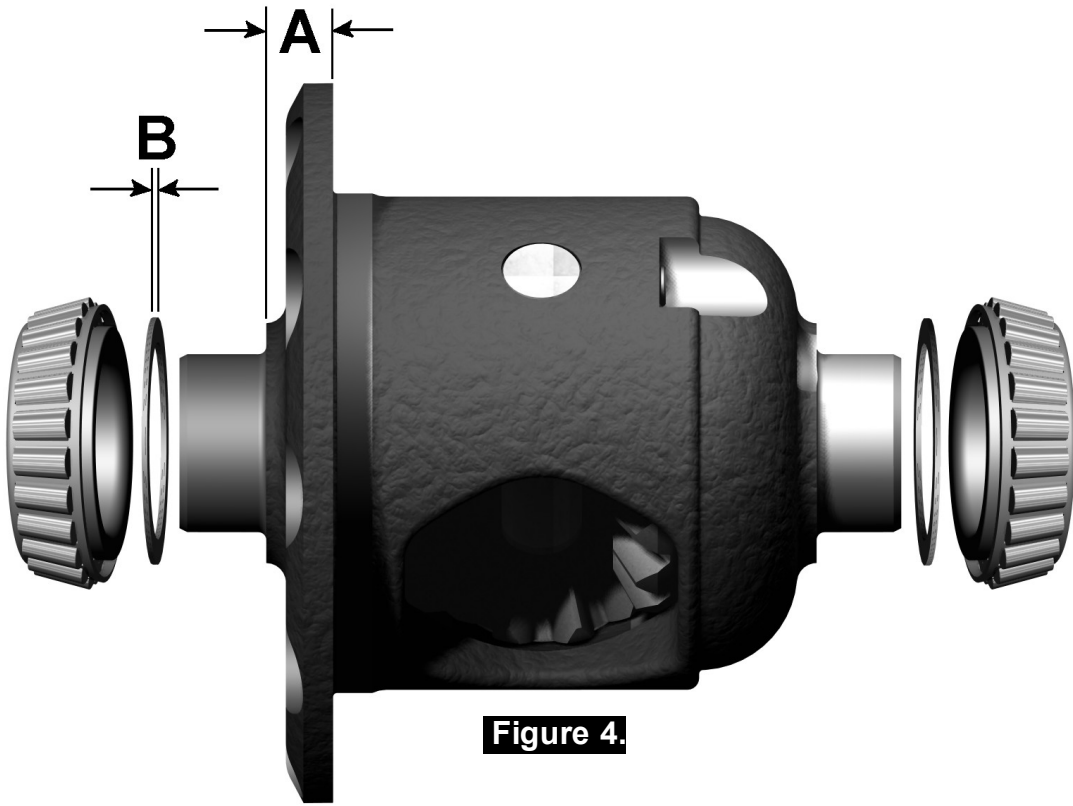
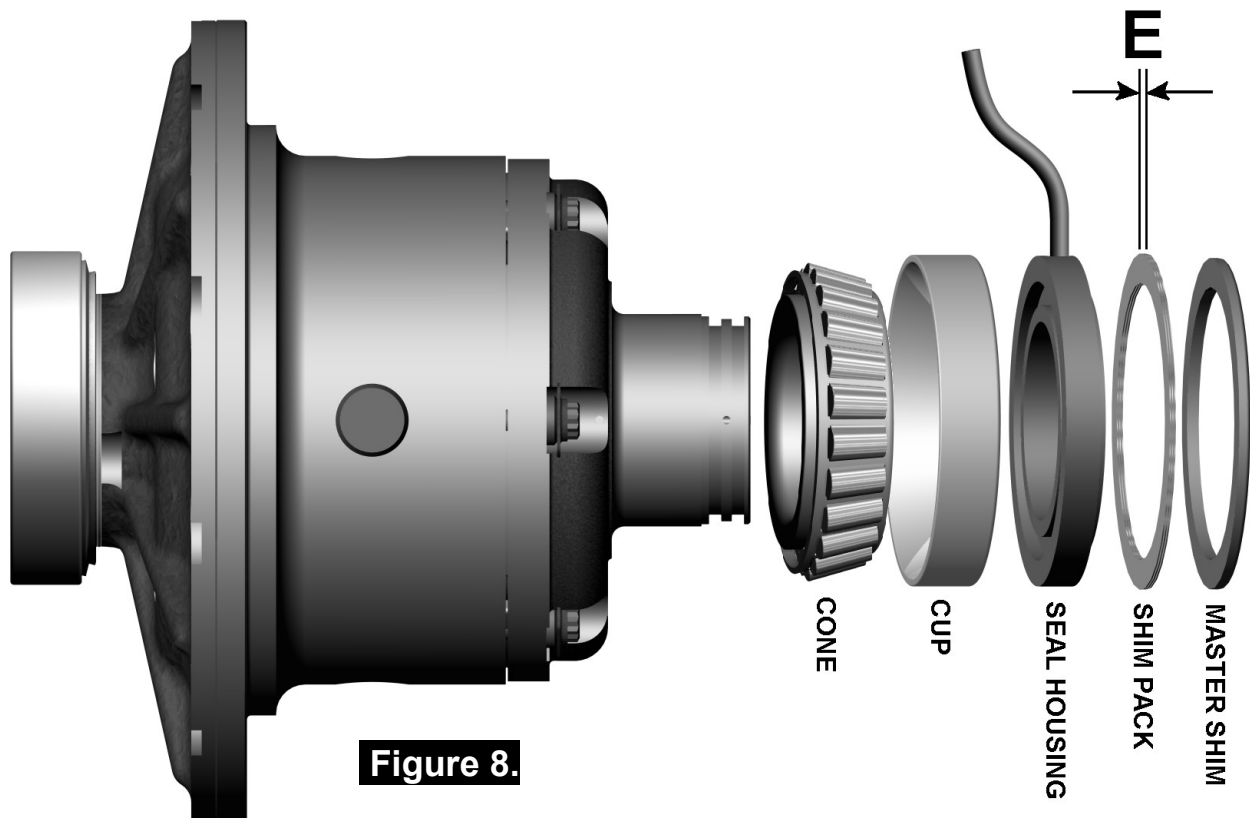

Figure 4.
Figure 8.
- Using a caliper or similarly accurate measurement method (i.e., able to take accurate measurements within 0.04mm [0.0015"]), measure the distance from the bearing shoulder to the ring gear mounting face (shown as 'A' in Figure 4.) and record this measurement as 'A'.
- Measure the thickness of the shim pack removed from the ring gear side of the differential carrier (shown as 'B' in Figure 4.) and record this measurement as 'B'.
- Place the bearing cup over the bearing cone (Figure 8.).
NOTE : The shim pack cannot be installed at this time as the required thickness (shown as 'E' in Figure 8.) has yet to be determined.
- Add the specified pre-load amount to the measurement taken with the feeler gauge to determine a shim amount for 'E' in Figure 8.
- Remove the *Air Locker* and assemble the shim pack onto the seal housing spigot behind the master shim (Figure 8.).
- To increase the amount of backlash, reduce the shim thickness 'D' (Fig. 4.) and increase the shim thickness 'E' (Fig.8.) by the same amount. Reverse this step to decrease the backlash.